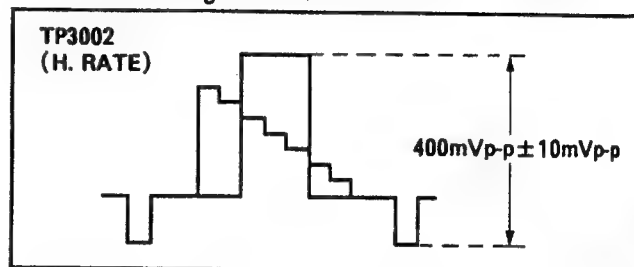

Figure E12
4. Adjust VR3004 for 400mVp-p \pm 10mVp-p as shown in Figure E12.